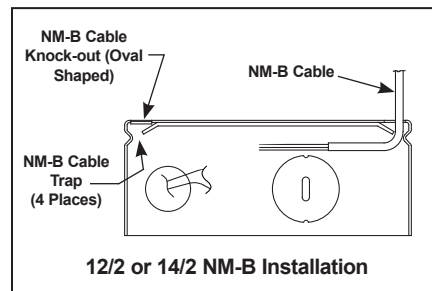

Figure 8
**1/2" or 1/4" Non-Metallic Sheathed Cable (Type NM-B).** Remove appropriate D-shaped cable knock-out(s). Insert NM-B cable through cable trap and make a 90° L-shaped bend in cable as shown (Fig. 8).